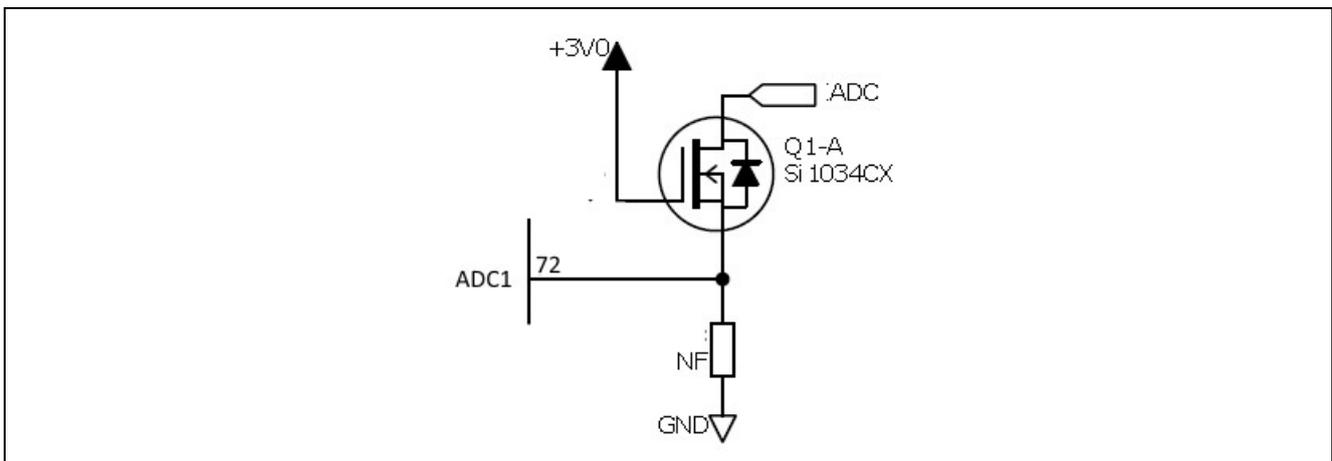

Figure 10. FET Implementation for ADC
- For Low Power mode conditions, it is best to consider having an inline FET switch connected between the ADC pin and the analog source as per the configuration of Figure 10.